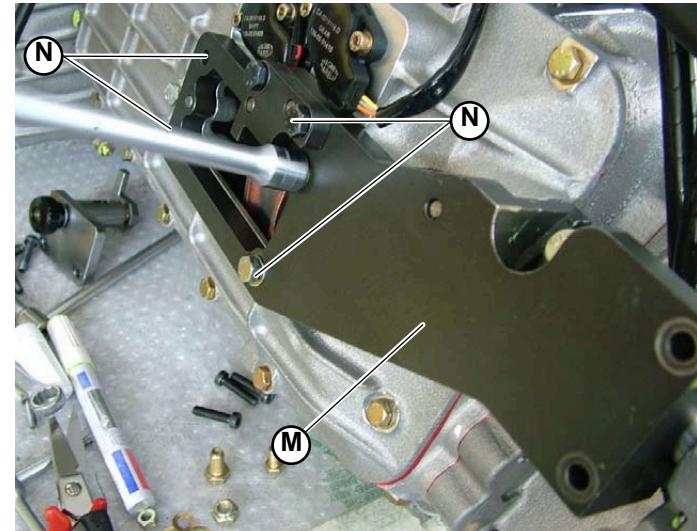
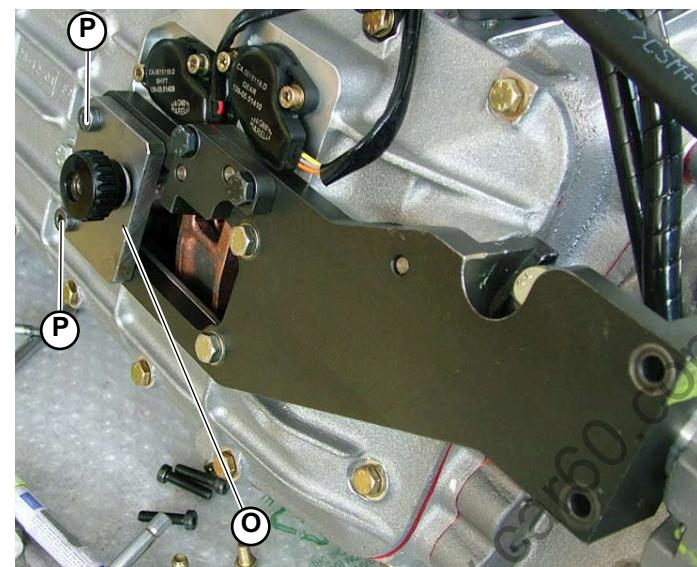
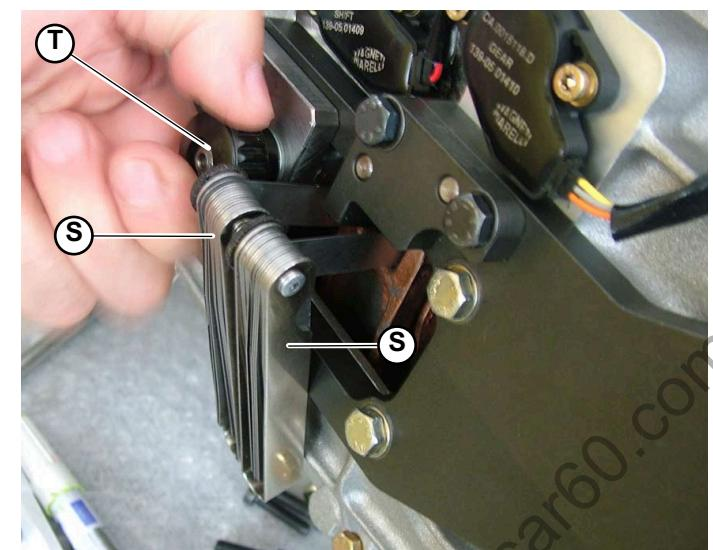

Fig.4
Fig.5
Fig.7
- Assemble the reset tool (**M-Fig.4**) and tighten it using the 4 screws (**N-Fig.4**).
- Assemble the tooth (**O-Fig.5**) and secure it to the reset tool using the 2 special screws (**P-Fig.5**).
- Insert the 2 thickness gauges (S-Fig.7) and use the tooth's knob (T-Fig.7) to obtain the correct thickness.
- Remove the 2 thickness gauges (S-Fig.7). Disassemble the tooth (O-Fig.5) and the reset tool (M-Fig.4).